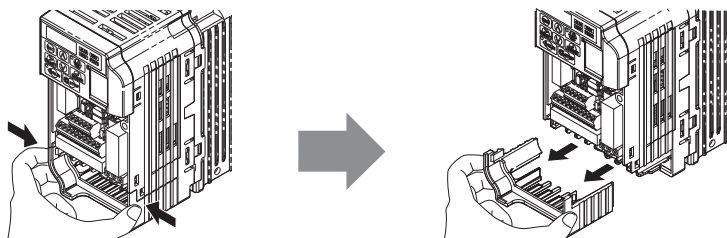
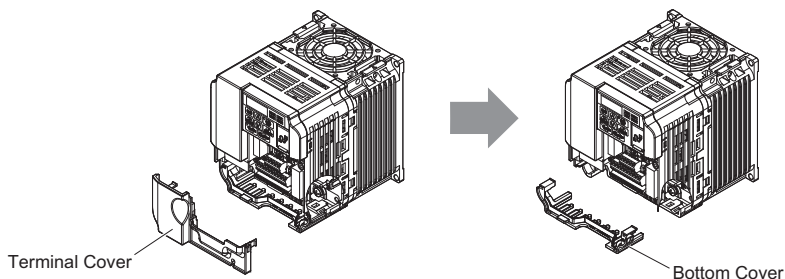

Figure 6 Remove the Bottom Cover on an IP20/Open-Chassis Drive (Models CIMR-V□BA0001B to BA0003B and 2A0001B to 2A0006B)
Figure 7 Remove the Terminal Cover and Bottom Cover on an IP20/Open-Chassis Drive (Models CIMR-V□BA0006B to BA0018B; 2A0008B to 2A0069B; 4A0001B to 4A0038B)
- For IP20/Open-Chassis models CIMR-V□□A□□□□B, remove the bottom cover of the drive by applying pressure to the tabs on each side of the bottom cover. Pull the bottom cover away from the drive while pushing in on the tabs to release the cover from the drive. Refer to Figure 6 for details. Refer to Figure 7 for drive models CIMR-V□BA0006B to BA0018B, 2A0008B to 2A0069B, and 4A0001B to 4A0038B, which require removing the terminal cover prior to removing the bottom cover.